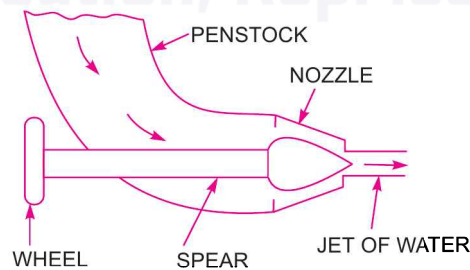

Fig. 18.2 Nozzle with a spear to regulate flow.
**1. Nozzle and Flow Regulating Arrangement.** The amount of water striking the buckets (vanes) of the runner is controlled by providing a spear in the nozzle as shown in Fig. 18.2. The spear is a conical needle which is operated either by a hand wheel or automatically in an axial direction depending upon the size of the unit. When the spear is pushed forward into the nozzle the amount of water striking the runner is reduced. On the other hand, if the spear is pushed back, the amount of water striking the runner increases.